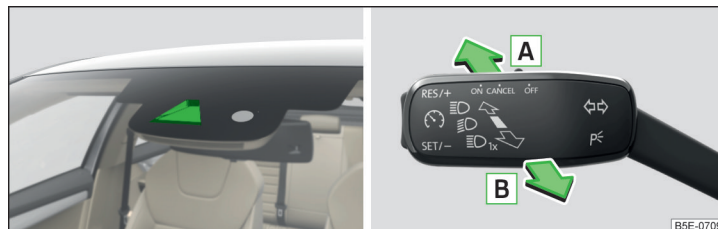

Fig. 70 Installation location of the sensor / system on/off
The high beam on/off is controlled by a sensor or a camera » Fig. 70.
▶ Push the lever into the sprung position **A** » Fig. 70 The following indicator light  lights up in the instrument cluster display.